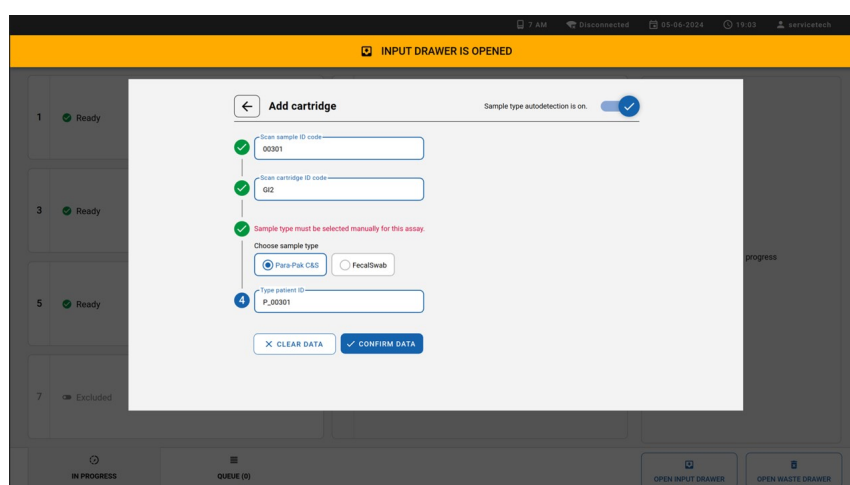

Figure 16. Select sample type screen.
3. Select the sample type for assays where sample type autodetection is not feasible or in case sample type autodetection is deselected (Figure 16).